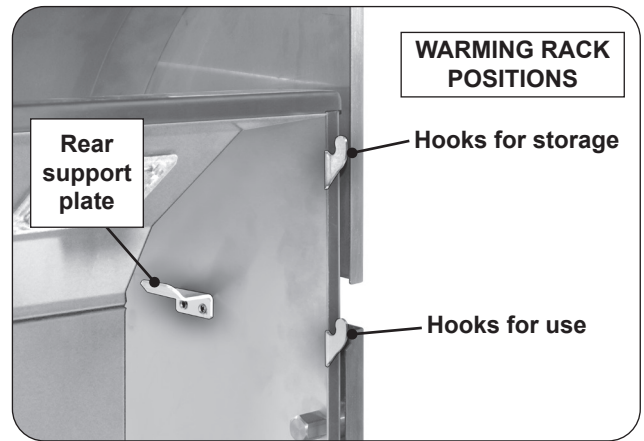
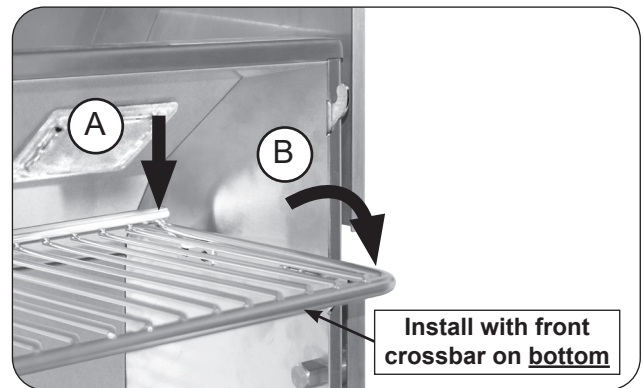
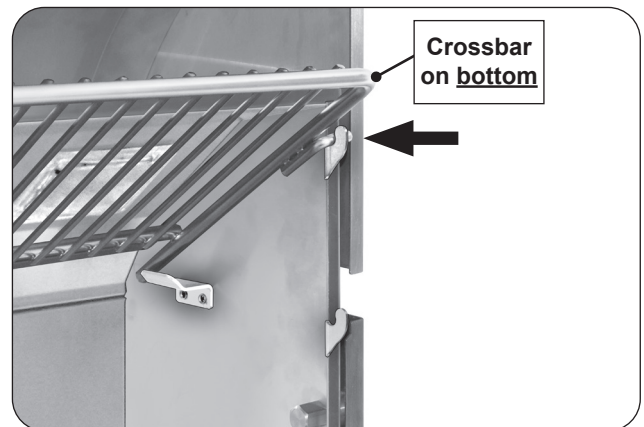

Fig. 33-1 Warming rack hooks
Fig. 33-2 Place warming rack for use
Fig. 33-3 Place warming rack in storage position
1. Locate the warming rack hooks and rear supports found on the upper portion of the grill oven (see Fig. 33-1).
2. With the warming rack oriented as shown, carefully rest the rear of the rack onto the rear support plates (Fig. 33-2, A), then rest the warming rack arms onto the two lower hooks for use (Fig. 33-2, B). Use the top hooks for storage (see Fig. 33-1 and Fig. 33-3).